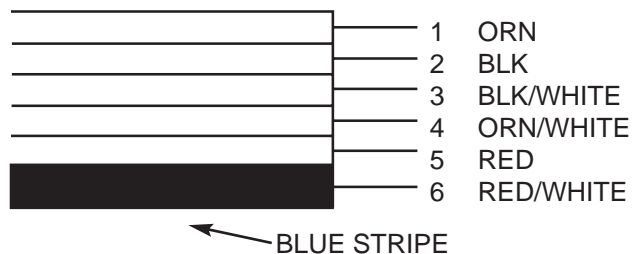

FIGURE 3
4. **Refer to Figure 3.** Use the Wire Matching Chart if you are retro-fitting a system with the previously used IW-6R cable.